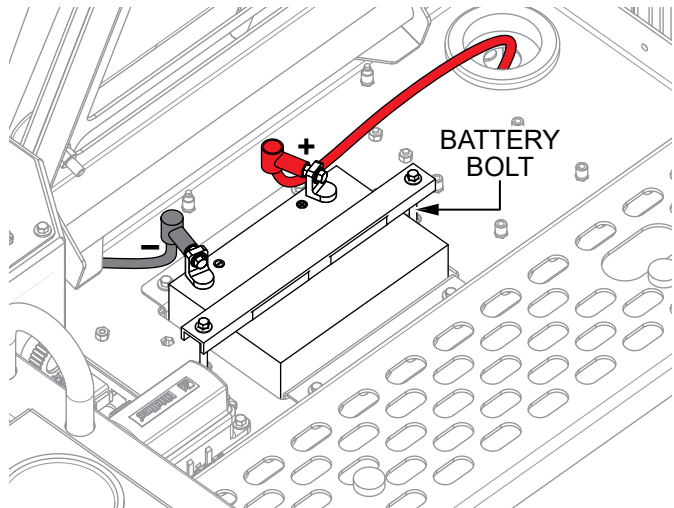

Figure 15. Battery Connection
2. Make sure the battery is well secured in the battery tray with the two **battery bolts** (Figure 15).
3. Connect the positive (**RED**) battery cable to the positive (+) terminal on the battery, then connect the negative (**BLACK**) battery cable to the negative (-) terminal. See Figure 15.